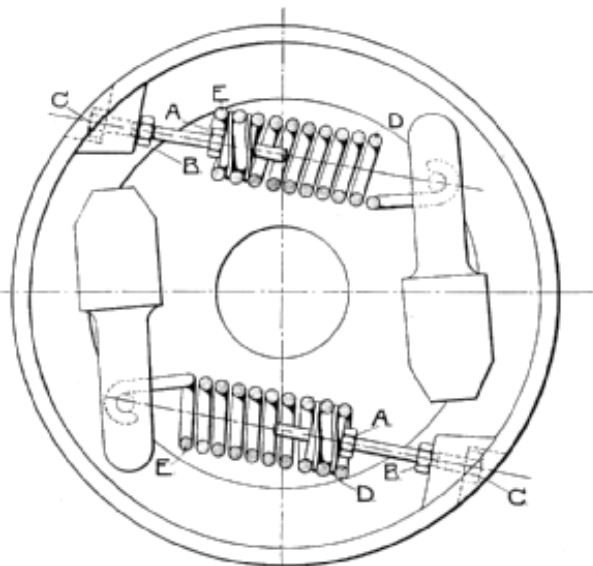

Fig. 16.
The nuts (A and B) (fig. 16) are unscrewed and the screws (C) turned to the right or the left by which the tension of the springs and at the same time the number of revolutions are increased or diminished. After every adjustment care must be taken that the two springs have the same tension which is easily controlled by measuring the distance between the depressions (D and E) in the outmost coils of the spring. This distance must be the same for the two springs.